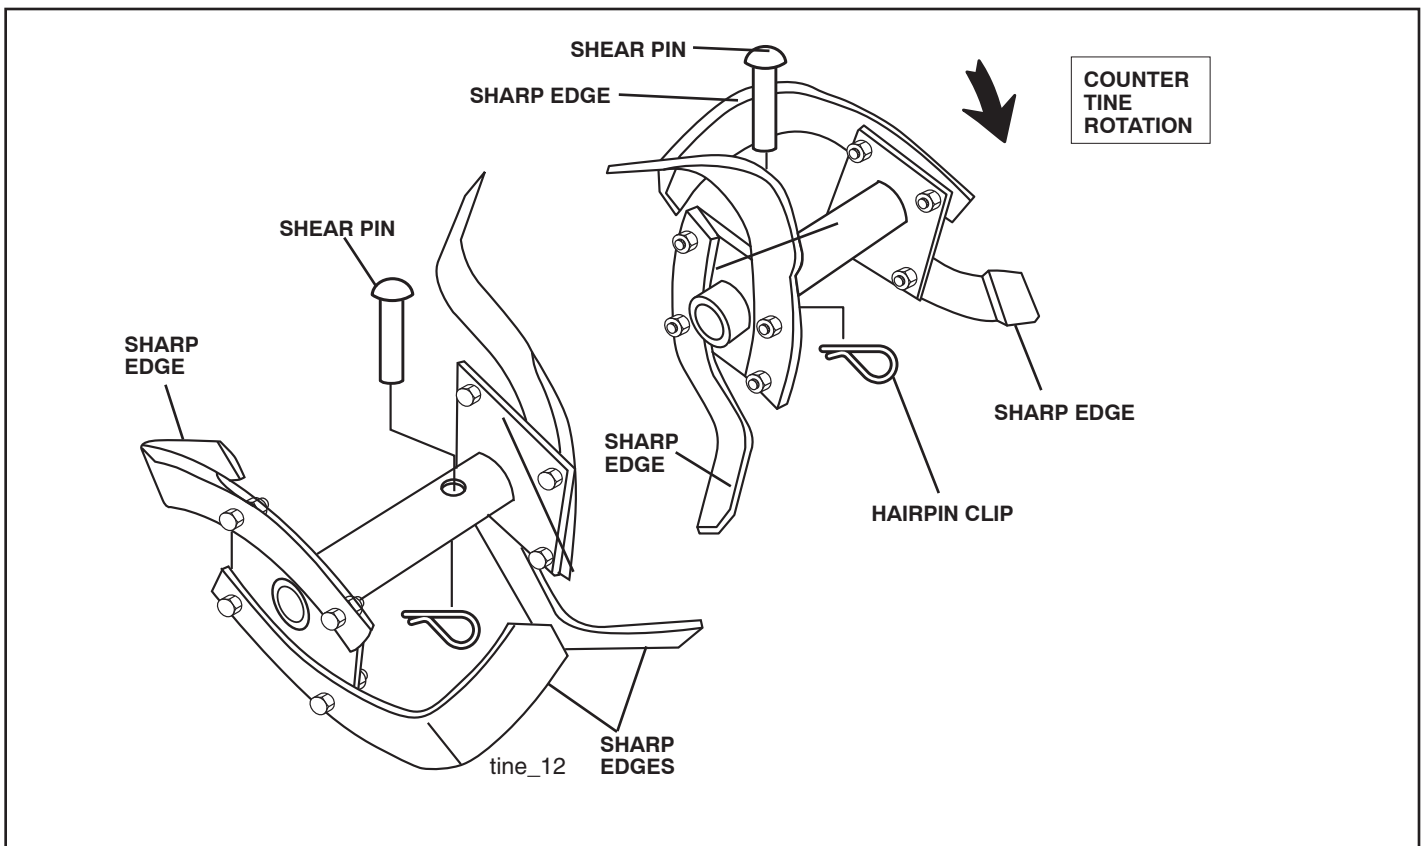

Fig. 26
- New tines should be assembled as shown in Fig. 26. Sharpened tine edges will rotate rearward from above.